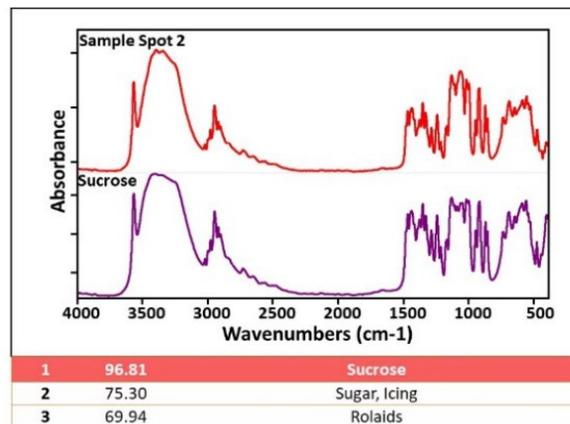

Figure 3: Library search results of sample spot B indicating sucrose.
Two different sample morphologies can be seen in the image. The spot on the right of the slide has an oblong shape and thinner edge (1). The spot on the left of the slide is irregular with a thicker edge (2). The system was able to measure each of these spots individually by using an aperture to focus only on the specific sample. The locations of the measurements are shown with the red circles, labeled A and B. The infrared spectrum measured from sample spot A was searched against a commercially available library of infrared spectra; the results are shown in Figure 3.